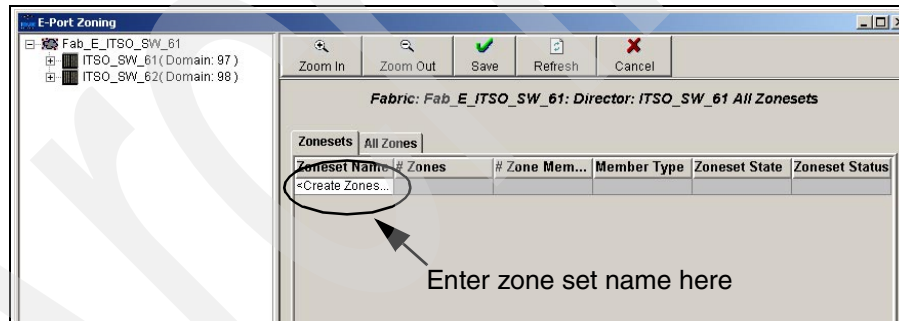

Figure 5-22 Create a zone set
5. Double-click the **<Create Zoneset>** text in the Zoneset Name column. Now type in the name of your zone set and press Enter to save the zone set name (see Figure 5-22).